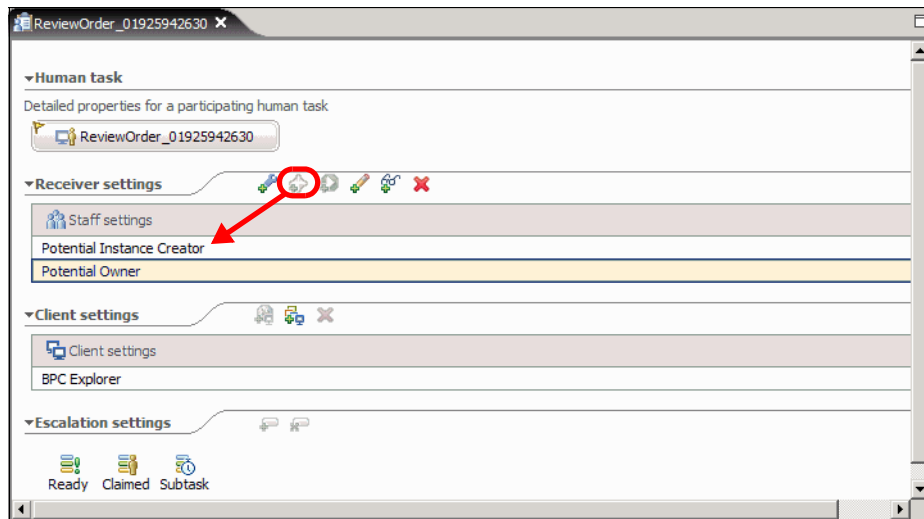

Figure 11-10 Human task configuration
- ▶ Open the *ReviewOrder* task (Figure 11-10):